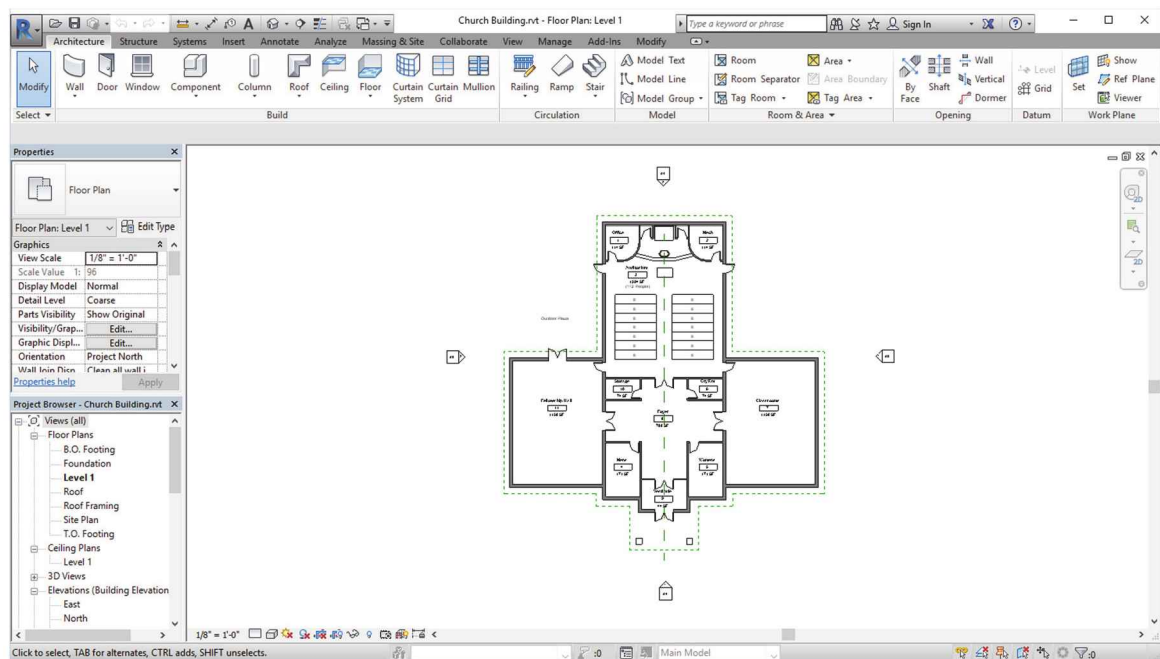

FIGURE 1-3.6 Sample file “Church Building.rvt”
7. Select the file named **Church Building.rvt** and click **Open** (Figure 1-3.6).